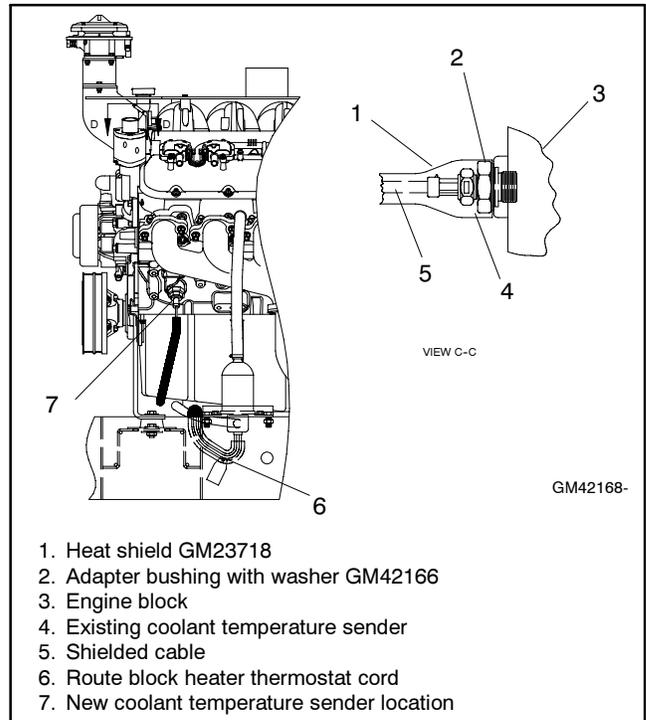

Figure 3 New Coolant Temperature Sender Location (28 mm port)
- 2.9 Install adapter bushing with washer GM42166 in the 28 mm port of the engine block. See Figure 3.